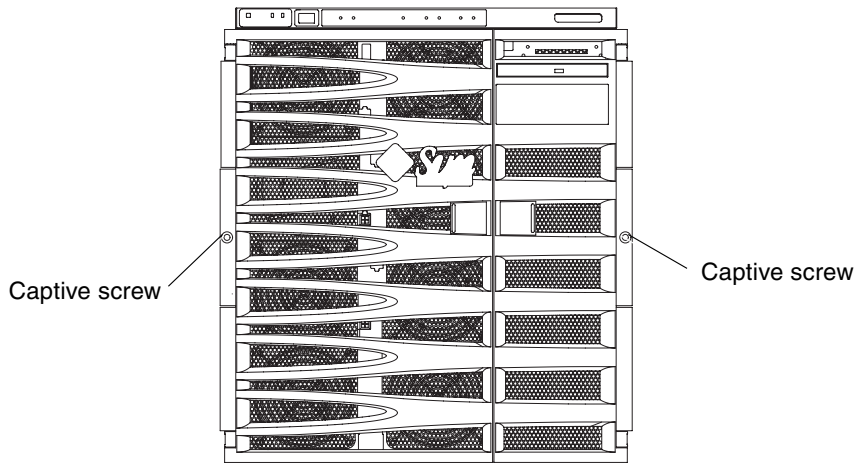

FIGURE 3-3 Side Handle Captive Screws
4. Loosen the captive screws on the side handles (FIGURE 3-3).
4. Tighten the captive screws on the side handles (FIGURE 3-3).
10. Tighten the two captive screws on the front of the system (FIGURE 3-3).